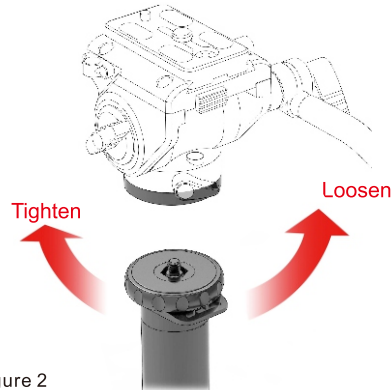

Figure 2
- ① To attach the video head onto the tripod, you must make sure the mounting screw of your tripod is 3/8". If it is 1/4" you will need to get a 3/8" screw or adapter. Many professional tripods have reversible mounting screws. Please check your tripod manual for more details.
- ② Tighten the Horizontal Panning Lock Knob, to lock the head and prevent it from turning. As shown in Figure 2, align the 3/8" mounting hole at the bottom of the Video Head with the 3/8" screw on the tripod. Hold by the base of the Video Head and rotate the Video Head in a clockwise direction until it is locked tightly.
As shown in Figure 2, tighten the Horizontal Panning Lock Knob, to lock the head and prevent it from turning, then turn the whole head in a counter-clockwise direction, until the head is removed from the tripod or monopod.